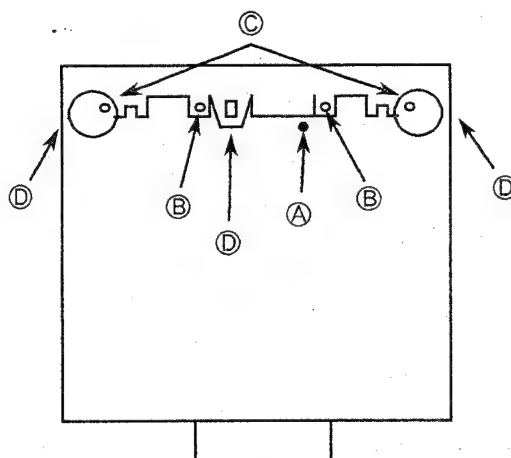

Fig. 1 Bottom view
6. Release the 3 hooks ④ to remove the front panel assembly from the chassis, and remove the main volume circuit board from the front panel (Fig. 1).
3. Remove the 4 screws ③ and ④ (Fig. 1) and remove the holder brackets.